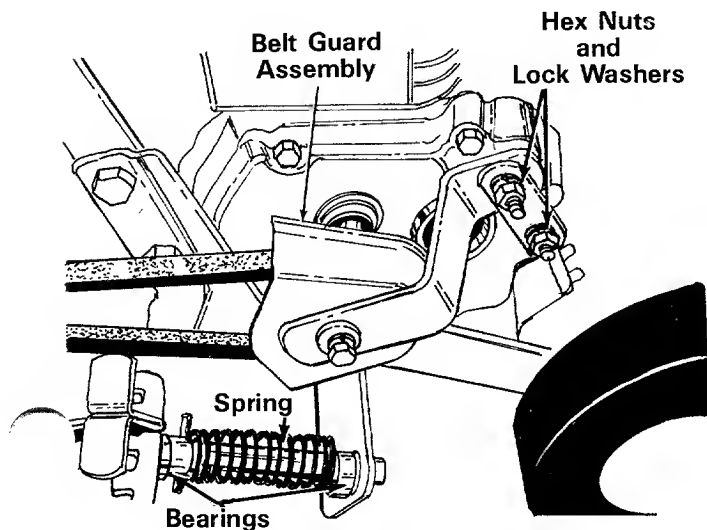

FIGURE 21
**Shaft** - Lubricate the two bearings and under the compression spring on the shaft with light oil at least once a season. See figure 21.
1. To remove the V-belt, remove the belt guard assembly at the engine pulley. Remove the hex nuts and lock washers. See figure 21.